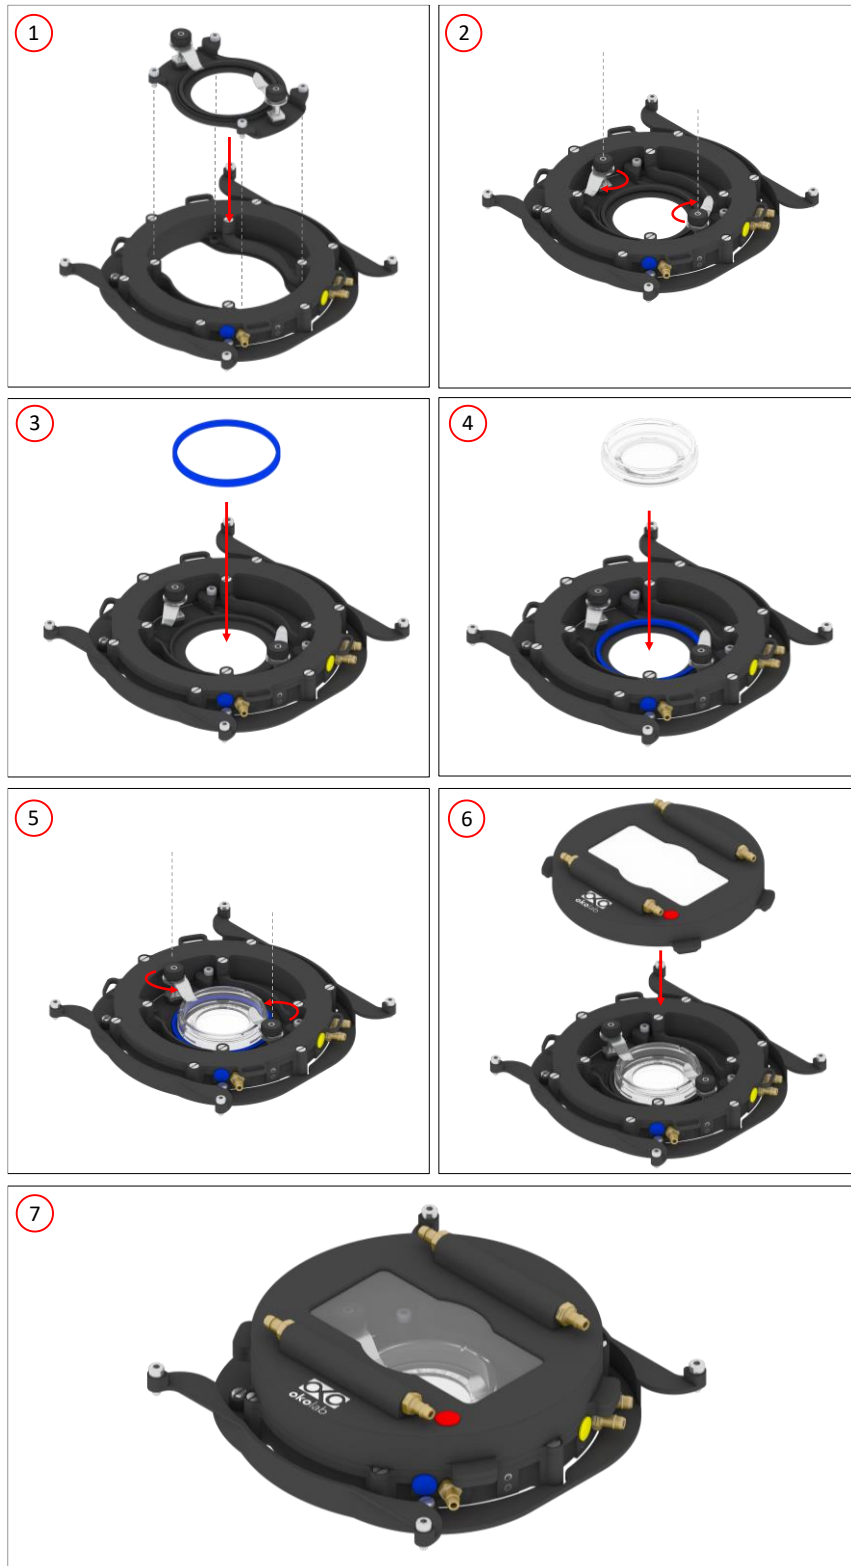

Figure 6. Working with 35 mm petri dish.
Insert the H101-LG-1x35, follow the steps shown in Figure 6 and listed below:
1. Accommodate the H101-LG-1x35 into the Chamber Base and insert the four captive screws of the H101-LG-1x35 into the dedicated slot in the Chamber Base (see image 1 in Figure 6),
2. Fix the H101-LG-1x35 sample holder to the Chamber Base. Fasten the four captive screws clockwise by using a 1.5 mm hexagonal key (see image 1 in Figure 6),
3. Turn the flat springs (see image 2 in Figure 6) and insert the spacing ring you need (see image 3 in Figure 6),
4. Insert the petri-dish (see image 4 in Figure 6) into the sample holder.
5. Lock the petri-dish by using the flat springs (see image 5 in Figure 6).
6. Close the Chamber Base with the Chamber Lid (see image 6 and image 7 in Figure 6).